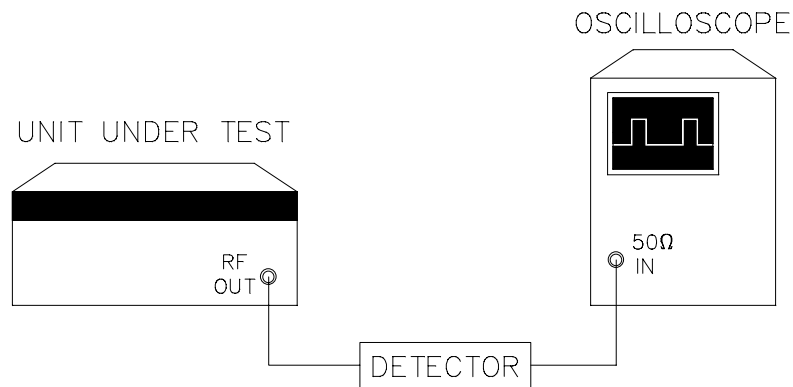

Figure 4-6. Pulse Modulation Rise/Fall Time Test
1. Connect the equipment as shown in Figure 4-6. The cable from the detector to the oscilloscope should be kept as short as possible.